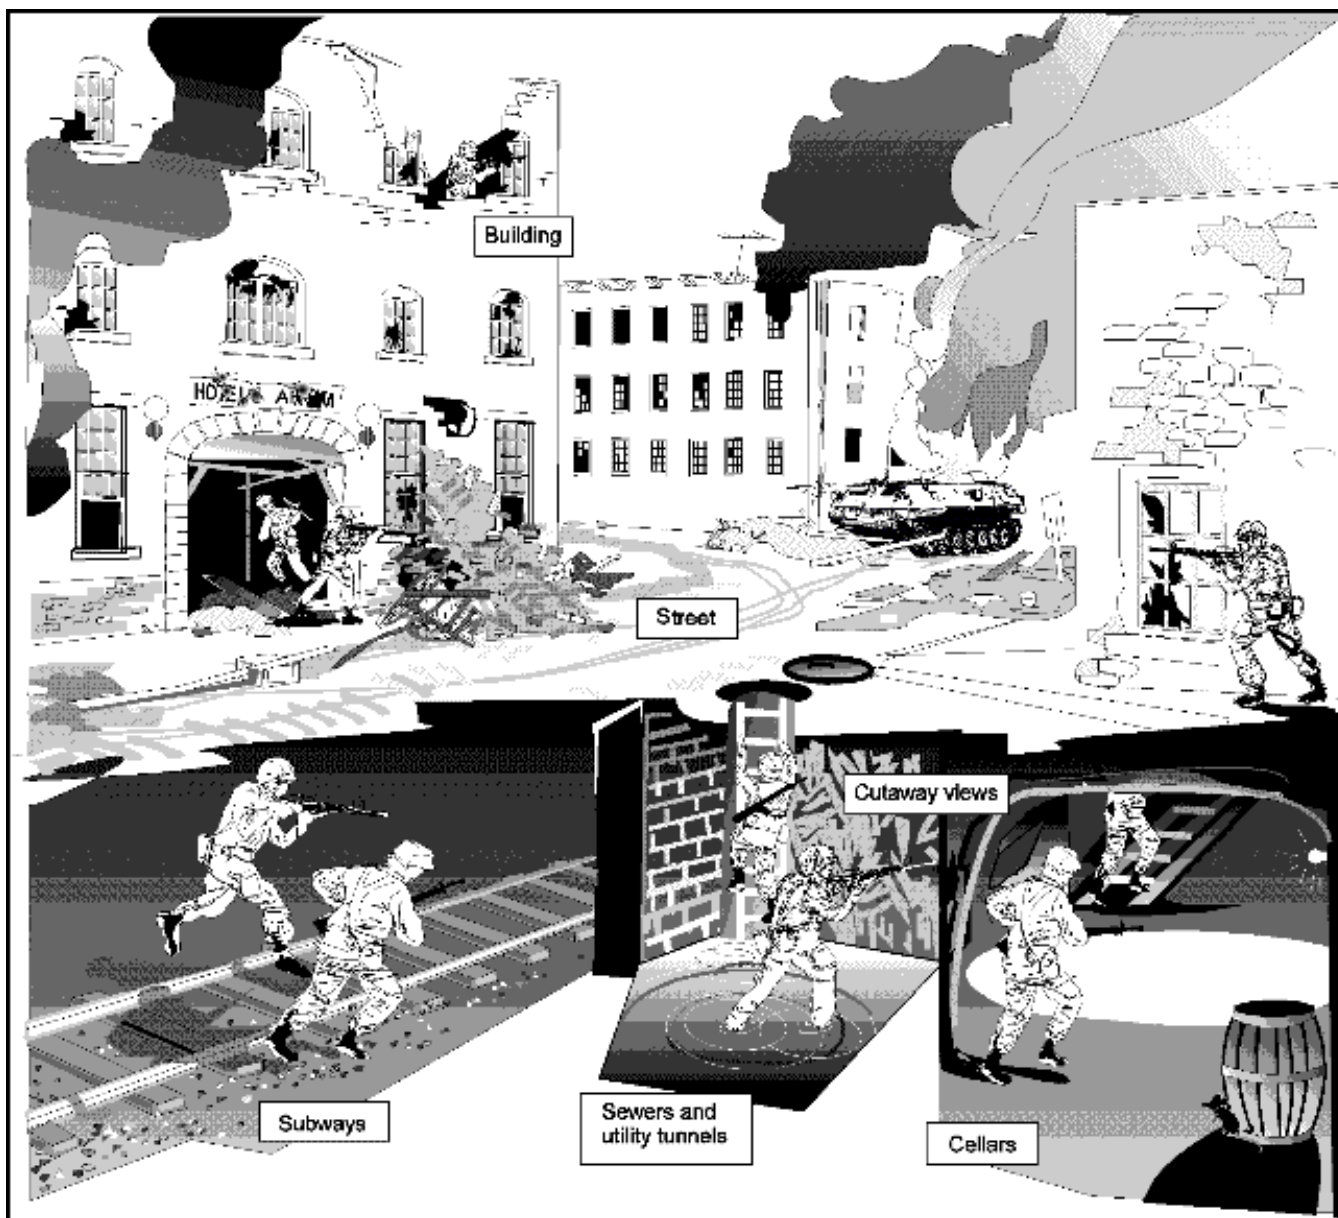

Figure I-1. Underground systems.
- Subterranean systems found in some built-up areas can be easily overlooked, but they may prove critical to the outcome of urban operations. Figure I-1 illustrates examples of underground systems, which include subways, sewers, cellars, and utility systems.